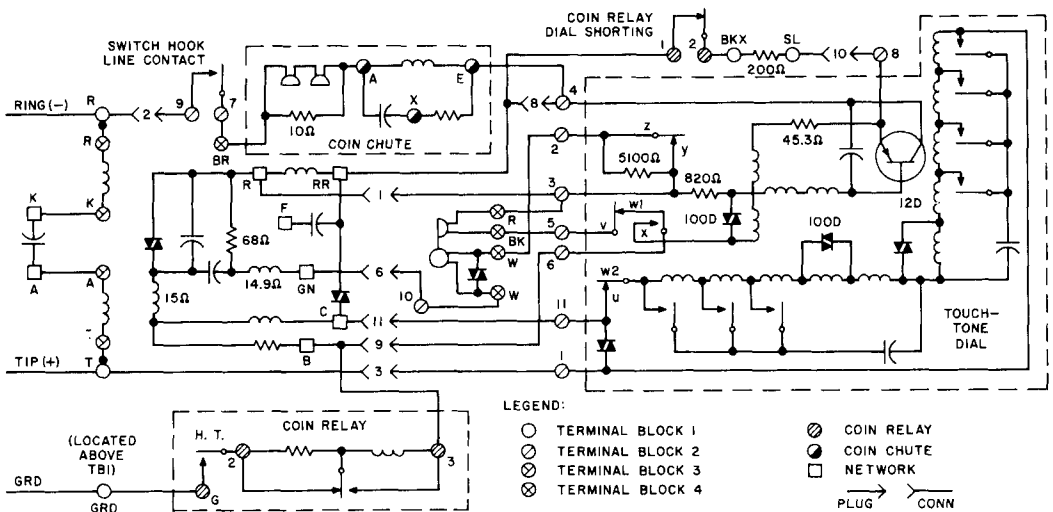

Fig. 11 - 1235G Coin Telephone
- Fig. 11 — 1235G Coin Telephone